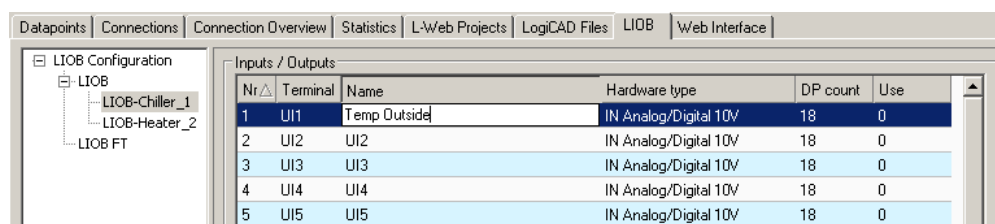

Figure 12: Change L-IOB terminal names for your installation.
2. Select a L-IOB device in the tree on the left-hand side and enter names for the terminals by double-clicking into the **Name** column as shown in Figure 12.